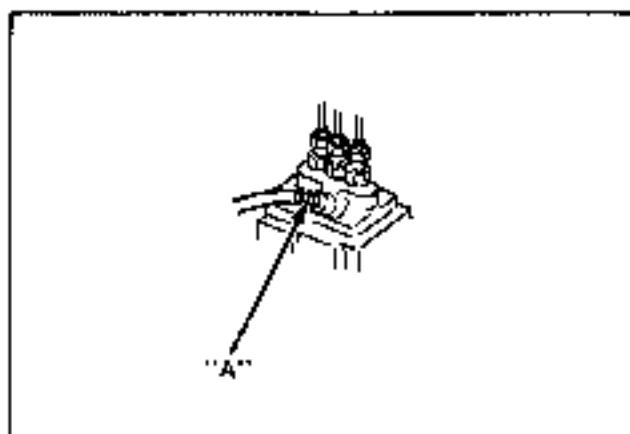

Figure 4-8
1. Loosen air vent screw (A) Figure 4-8
2. Place ignition key to the ON position. The fuel pump will now pump fuel through the system. When fuel runs out of air vent (A) reinstall screw.